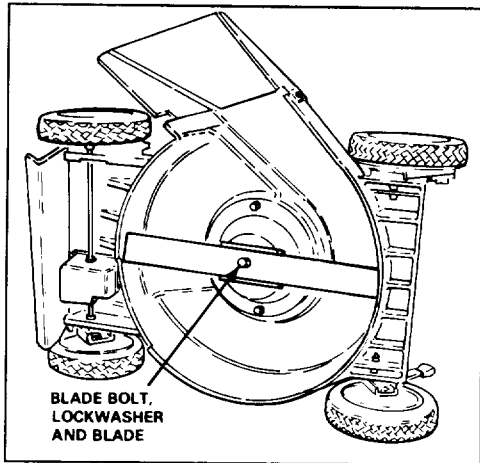

Figure 15
3. Tip mower on its left side (Fig. 15).
5. **REMOVING BLADE**—Grasp end of blade using a rag or thickly padded glove. Remove blade bolt, lockwasher, and blade (Fig. 15).